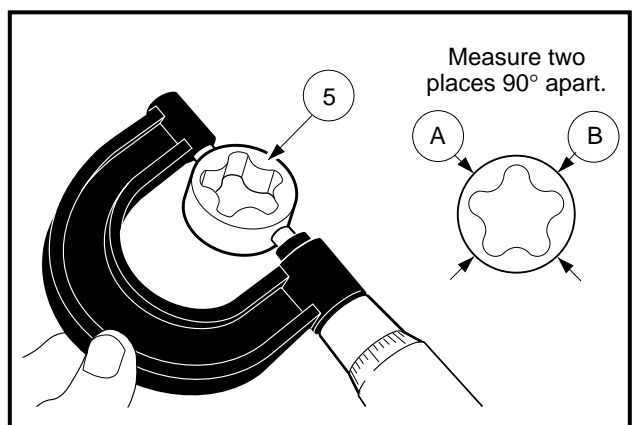

Figure 13-68 Measure Outer Rotor O.D.
- 4.2. Using a micrometer, measure the diameter of the outer rotor at several points (**Figure 13-68, Page 13-33**).